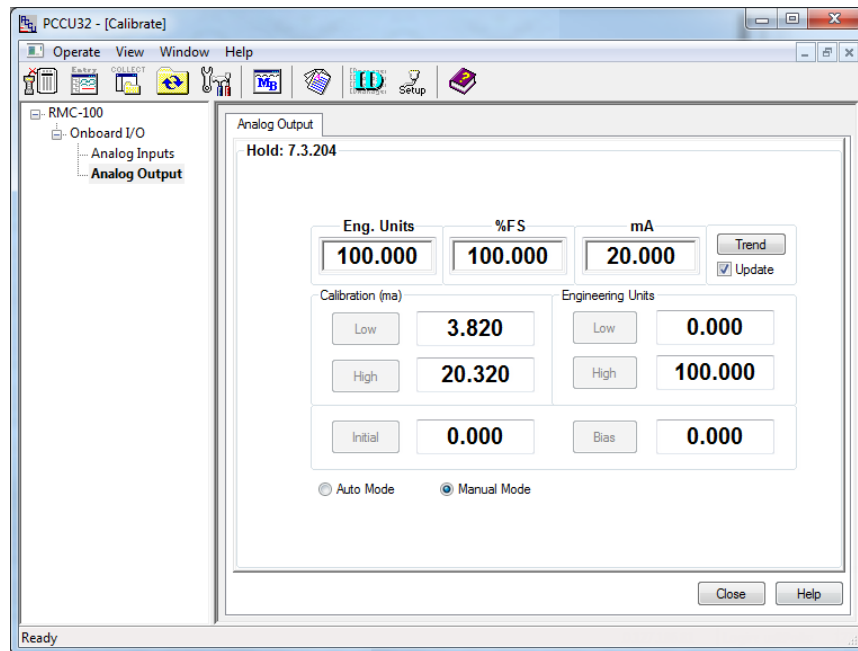

Figure 71: AO example - engineering units
10. Test the engineering units display by typing different values in the %FS or mA fields and verify that the Eng. Units field reflects values based on the range defined (Figure 71).